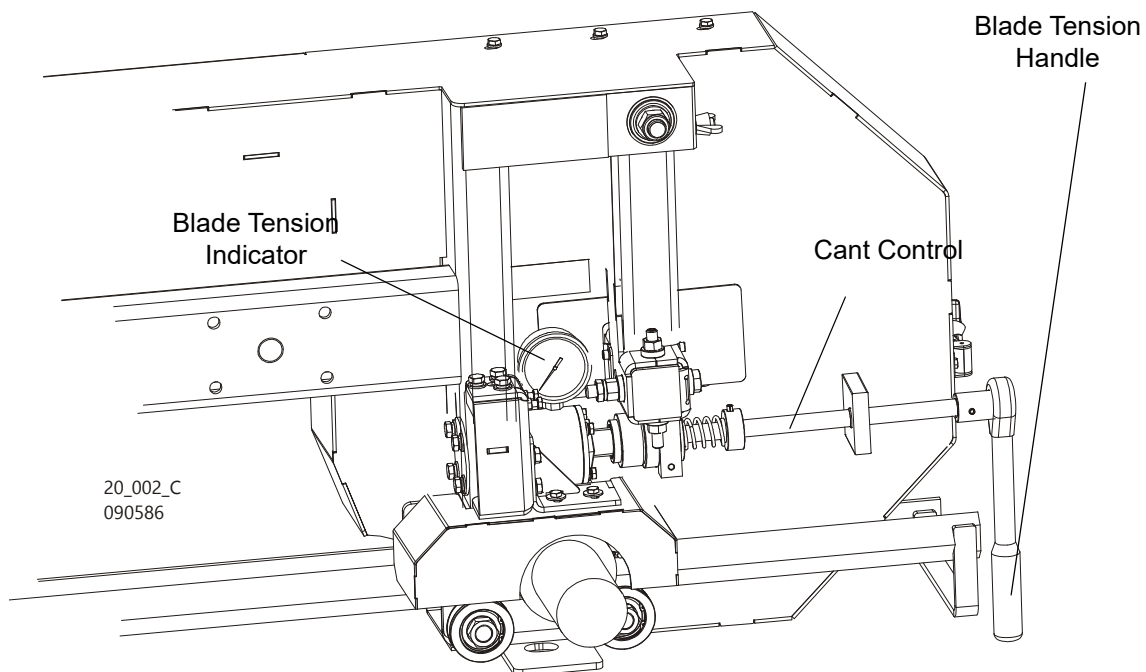

FIG. 2-21.
See Figure 2-21. Turn the blade tension handle clockwise until the tension gauge indicates the recommended tension. Check the blade tension occasionally when adjusting the cant control or while cutting. As the blade and belts heat up and stretch, the blade tension will change. Also, ambient temperature changes can cause tension to change.
5. Use the cant adjustment bolt, shown in **Figure 2-21** to adjust where the blade travels on the blade wheels.